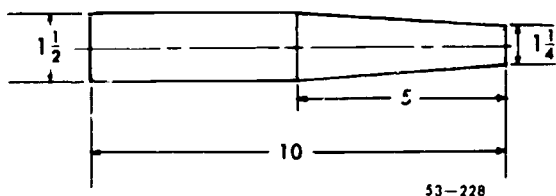

Figure 5-23. Calculating tailstock offset when the dimensions are given.
**Example:** To cut a taper having 0.050 TPI, 5 inches in length on a piece of work 10 inches long, as shown in figure 5-23, the tailstock offset would be calculated as follows: